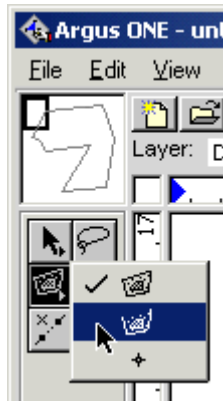

Figure 15. Contour Tool.
4. To draw an open or point contour, click and hold the mouse button down over the contour drawing tool (fig. 15) and make a selection from the menu that appears. Click in the white work area to draw the selected type of contour. The *Contour Information* dialog box will appear again when the contour is completed for entry of the **element_size** value.